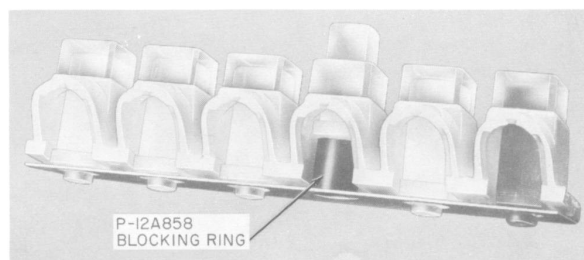

Fig. 5—Installation of P-12A858 Blocking Ring
3.13 All unused pickup key positions should be blocked inoperative by using a P-12A858 blocking ring. Install ring between key plunger and coverplate of button and collar assembly as shown in Fig. 5. One ring is shipped loose with these sets.